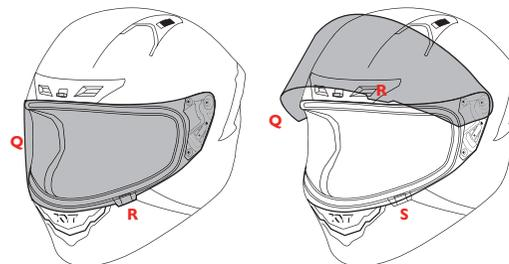

FIGURE 12
**How to operate — Figure 12**